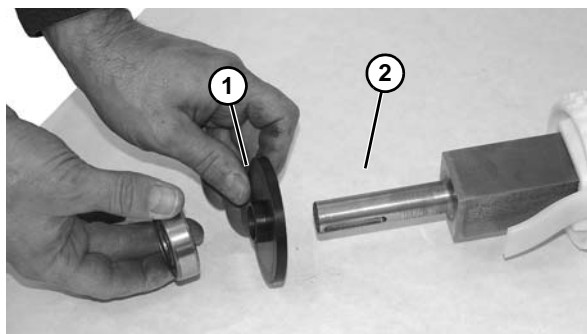

Figure 56
13. Remove washer (**Figure 56, item 1**), as shown, making note of flange area (**Figure 56, item 2**) of washer. Repeat on opposite side, if needed. (Note: Not applicable for High Strength Belts.)